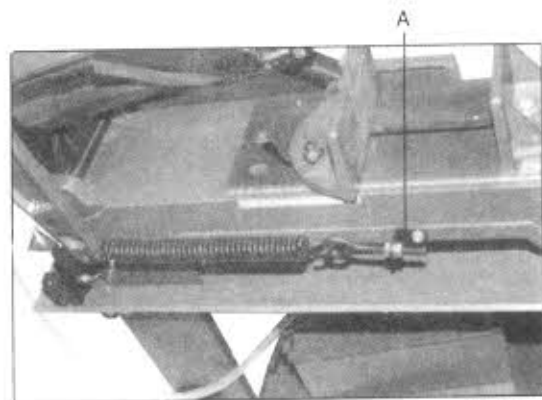

Fig.16
5. Adjust tension to approximately 5-6 kgs. By turning bolt (A, Fig. 16).